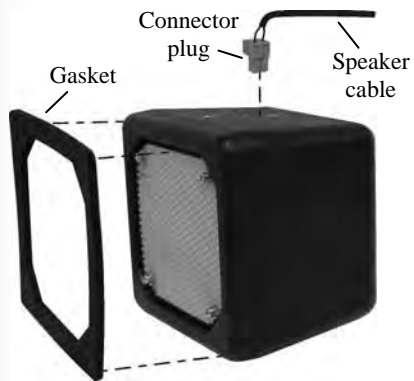

Figure 20. SP10 with gasket and cable connector plug
- Strip approximately 1 inch (25.4 mm) of insulation from the end of the speaker cable, and $\frac{1}{4}$ inch (6.35 mm) of insulation from each of the two cable wires, but do not tin the wires. Connect the speaker cable wires to the connector plug as shown in Figure 20.
- Insert the connector plug into the connector on the speaker as shown in Figure 20.
- Peel the paper off the self-adhesive gasket, and press the adhesive side of the gasket against the front of the speaker in the position shown in Figure 20.